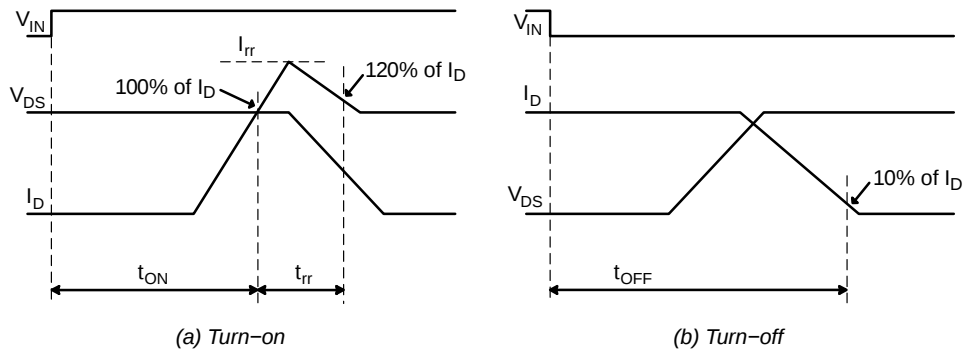

Figure 7. Switching Time Definitions
- $t_{ON}$  and  $t_{OFF}$  include the propagation delay of the internal drive IC. Listed values are measured at the laboratory test condition, and they can be different according to the field applications due to the effect of different printed circuit boards and wirings. Please see Figure 6 for the switching time definition with the switching test circuit of Figure 7.
- The peak current and voltage of each MOSFET during the switching operation should be included in the Safe Operating Area (SOA). Please see Figure 7 for the RBSOA test circuit that is same as the switching test circuit.